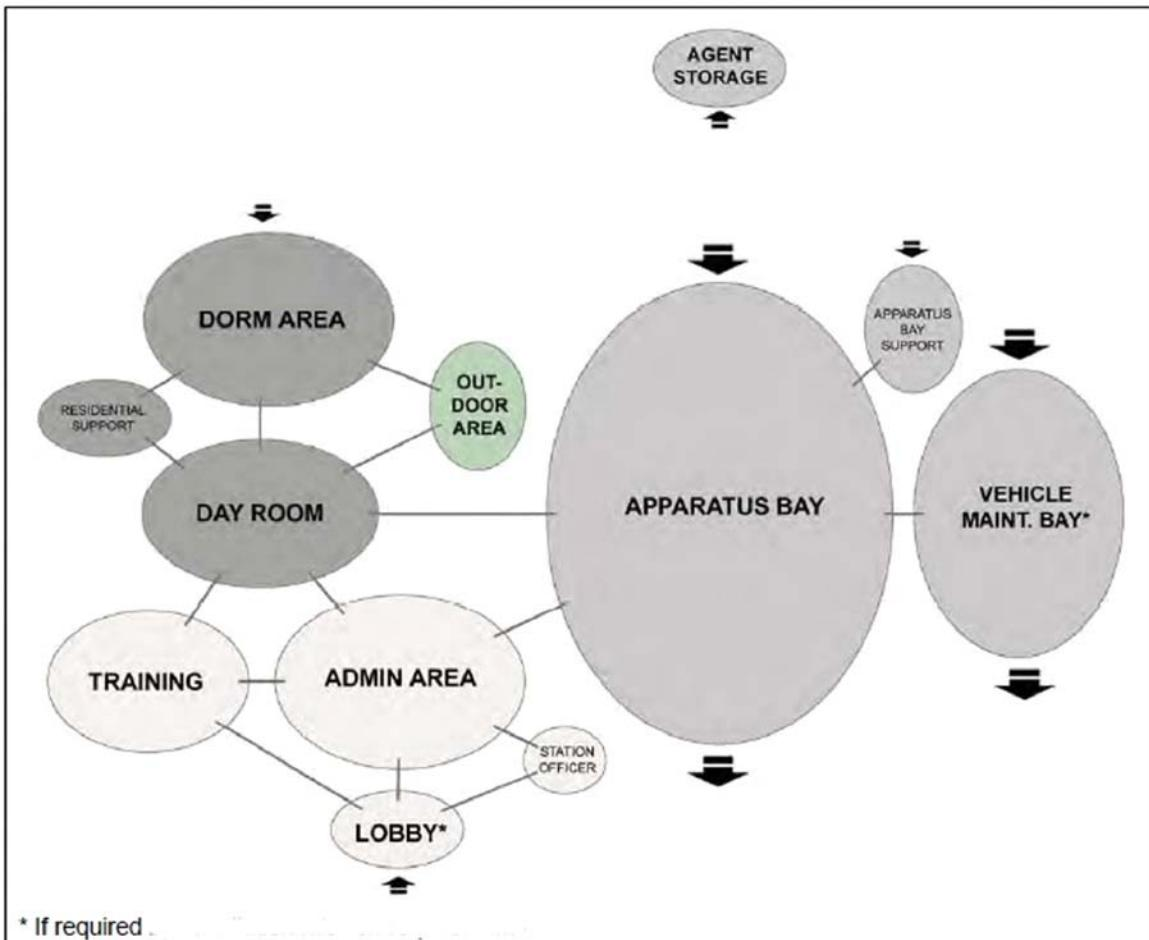
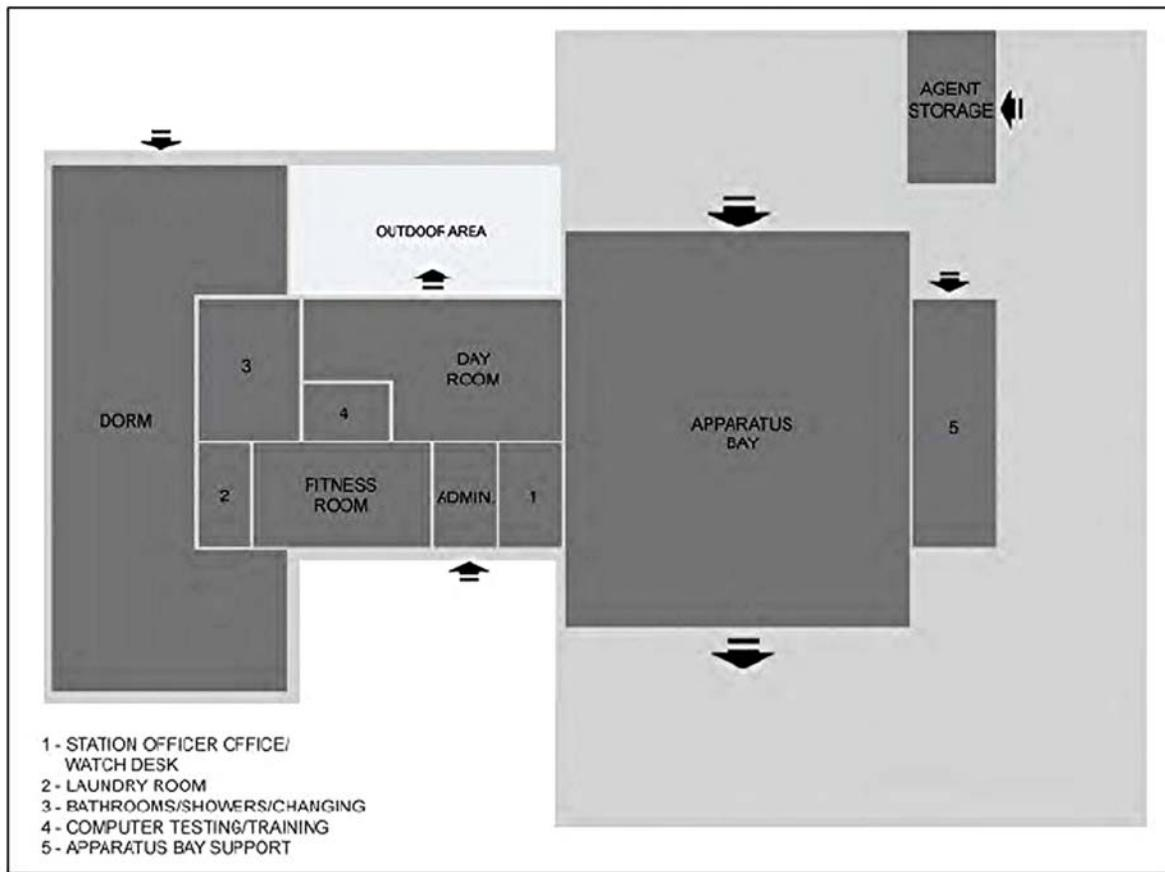

Figure 2-1
Figure 2-2
**2.5.1 Functional Relationship Bubble Diagram.** The bubble diagram in Figure 2-1 indicates the acceptable relative adjacencies of the functional spaces. Some of these key adjacencies may be accommodated through a hallway rather than a direct entrance/exit from one space to another. This is particularly true with the Apparatus Room and the Day Room as many facility spaces need an adjacency with these two spaces. Note that the “Apparatus Bay Support” area indicated in the diagrams includes the following spaces, some of which may not be included in every station, depending upon Installation mission requirements:
**2.5.2 Illustrative Diagrams.** The illustrative diagrams include Figures 2-2 through 2-4. They do not represent mandatory or even suggested layouts but are provided to expand on Figure 2-1 and illustrate the relative sizes of the functional spaces along with the acceptable adjacencies. By including the relative sizes of the spaces, these diagrams convey a possible means to accommodate the needed adjacencies.
### 2.5.2.1 Figure 2-2.